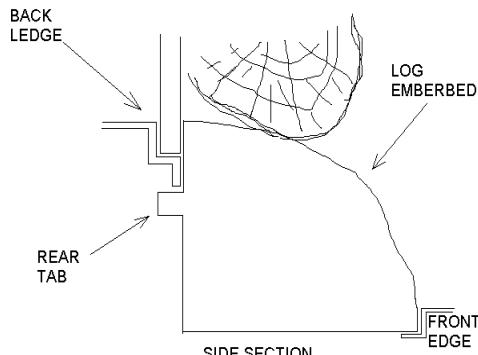

FIGURE 5
3. Pull front edge of plastic ember bed grate up and forward until rear tab releases from the ledge located at the bottom of the mirror. (FIGURE 5)
Note: Log set fits tightly into firebox, some force may be necessary to remove. (FIGURE 5)
3. Replace the log by inserting front edge and pushing the back down until rear tab snaps under back ledge (FIGURE 5) and the logs are resting against mirror.